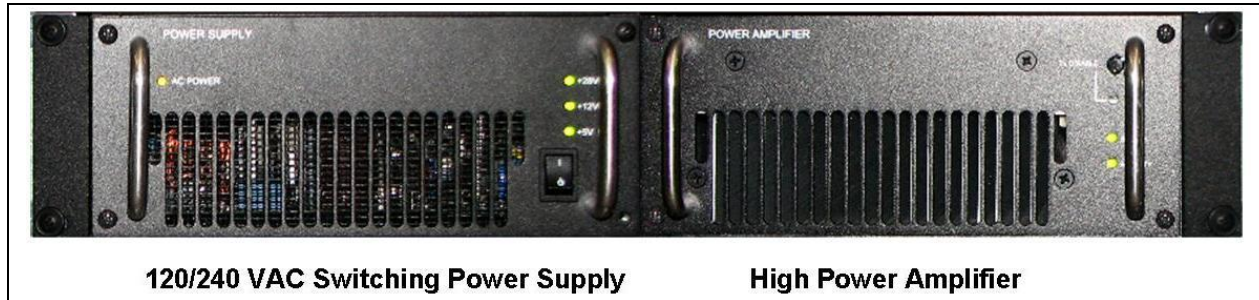

Figure 4-3: MASTR V HPA/PS Shelf Assembly (Shown with HPA and PS Installed)
The High Power Amplifier (HPA) (refer to Section 4.4.7) and the Power Supply (PS) (refer to Section 4.4.7.1) are installed in a 19” rack mountable, 2-slot metal shelf, model MA-555003 (refer to Figure 4-3). The HPA/PS shelf is a mechanical-only assembly with no electrical components.